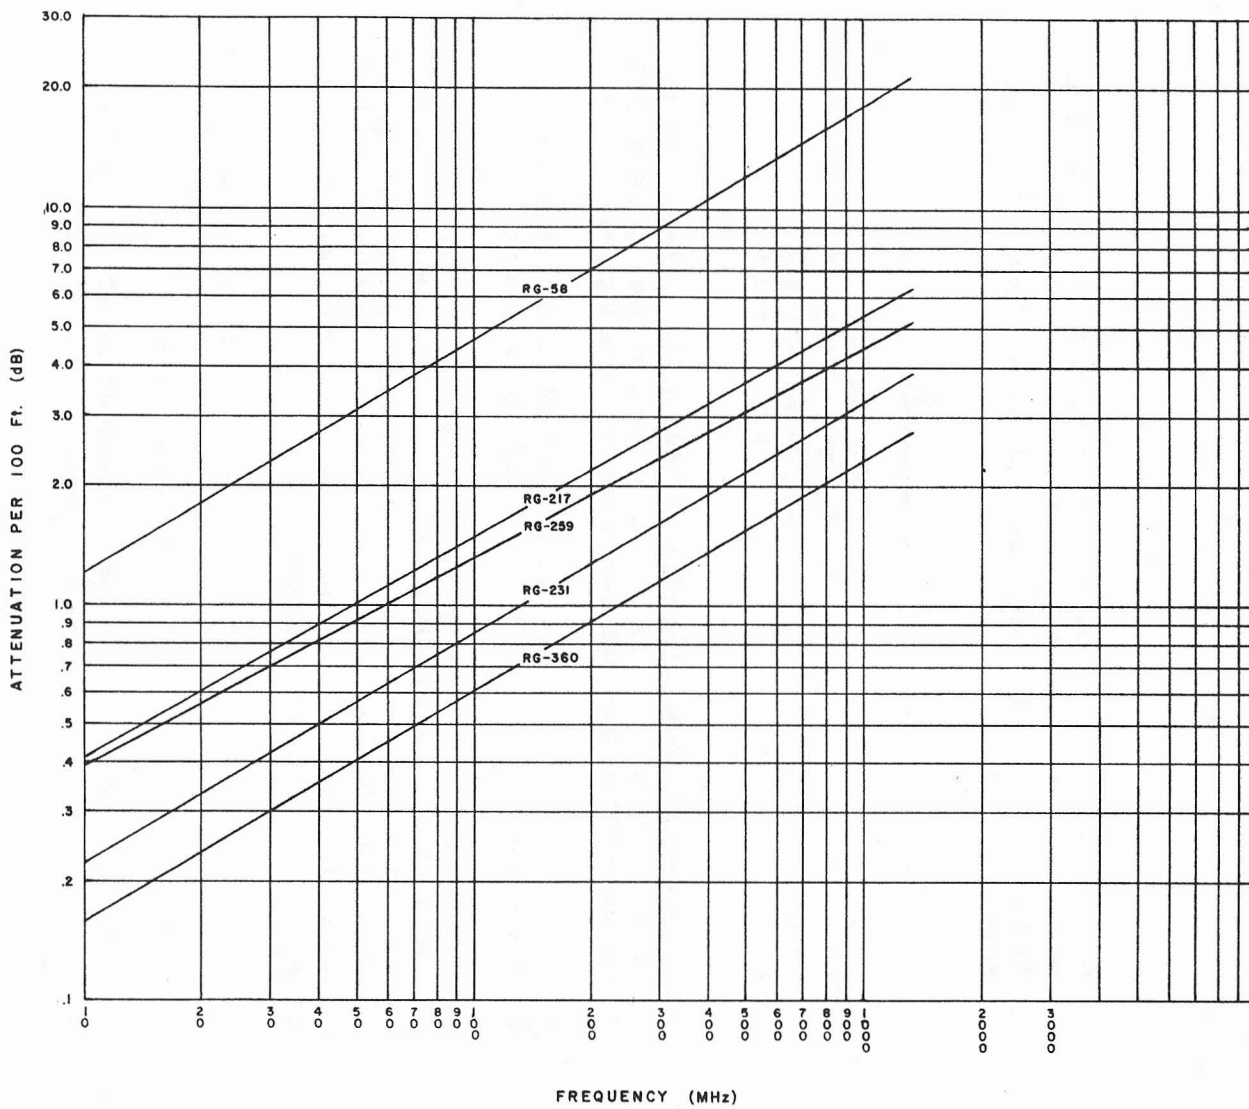

Figure 2-6. Frequency Vs Loss Characteristics of Typical RF Cables.
2.3.2.3 **Preselector Gain Setting** - The preselector gain controls are set to accommodate the gain requirements of the receiver installation. Gain can be set to introduce a flat gain response across the entire 20 to 1100 MHz frequency range, or it can be set to provide a gain slope that increases logarithmically from 20 MHz to 500 MHz, or 1100 MHz. For installations using long lengths of RF cable, it is often desirable to use one of the slope gain modes (AT 1100 MHz or AT 500 MHz) to compensate for frequency dependent cable losses. Review the characteristics of the cable used to determine the total loss that will be experienced for the length of cable. Select the gain settings that most closely match the calculated losses. **Figure 2-6** illustrates typical frequency vs. loss characteristics of various types of RF cable. Selection of the various gain modes is performed as follows: